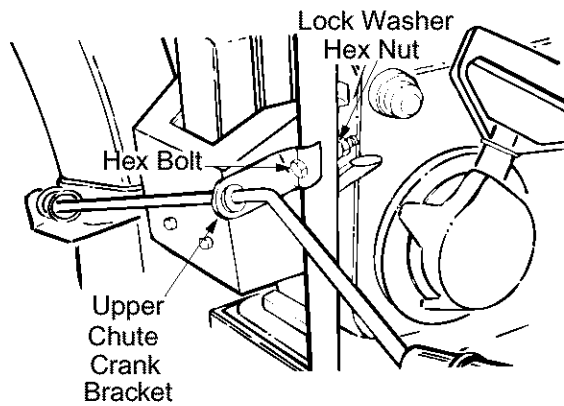

Figure 8
1. Insert hex bolt 1-1/2" long through the upper chute crank bracket (D). See Figure 8.